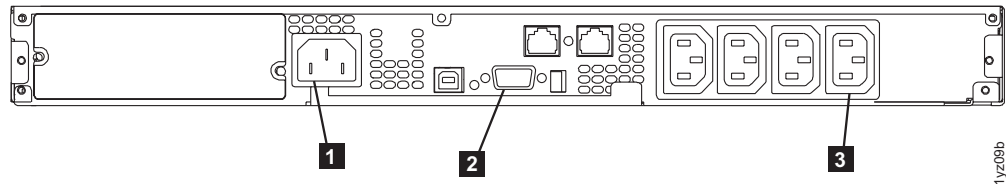

Figure 299. 2145 UPS-1U (rear view)
2. At the back of the 2145 UPS-1U, remove the power cable retainer before disconnecting the SAN Volume Controller power cable from load segment receptacle 2 (**3** in Figure 299).
3. Disconnect the signal cable from the communication port (**2** in Figure 299).
4. Disconnect the main power cable from the main power source (**1** in Figure 299).